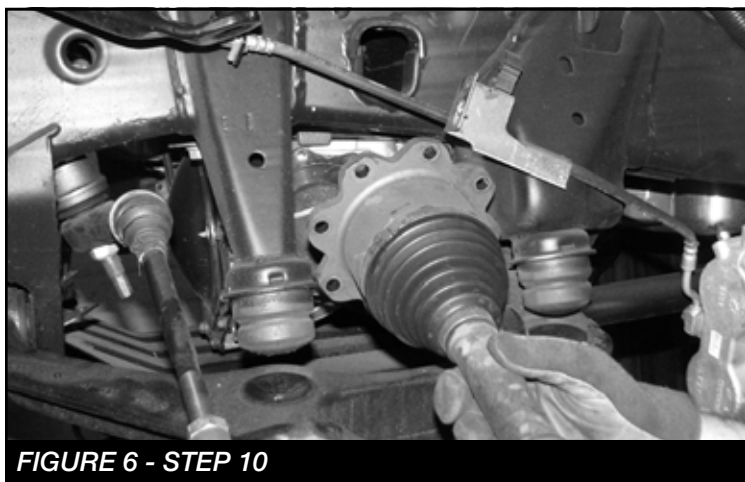

FIGURE 6 - STEP 10
10. Disconnect CV axles from differential housing and remove axle assembly. Save hardware. **SEE FIGURE 6**